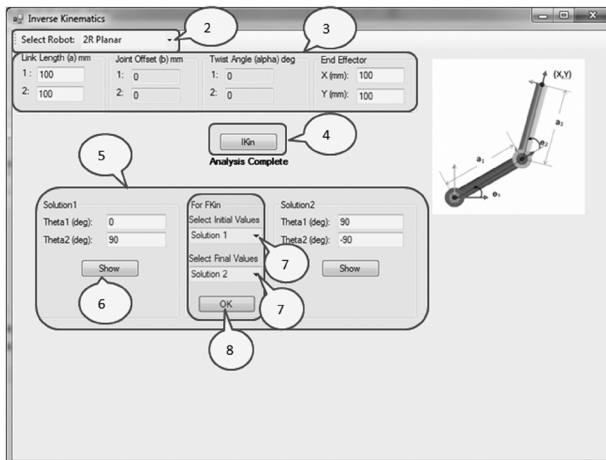

Fig. C.2 Inverse kinematics of a 2R planar robot manipulator
1. Click on **IKin** button. It shows a separate window (Fig. C.2).